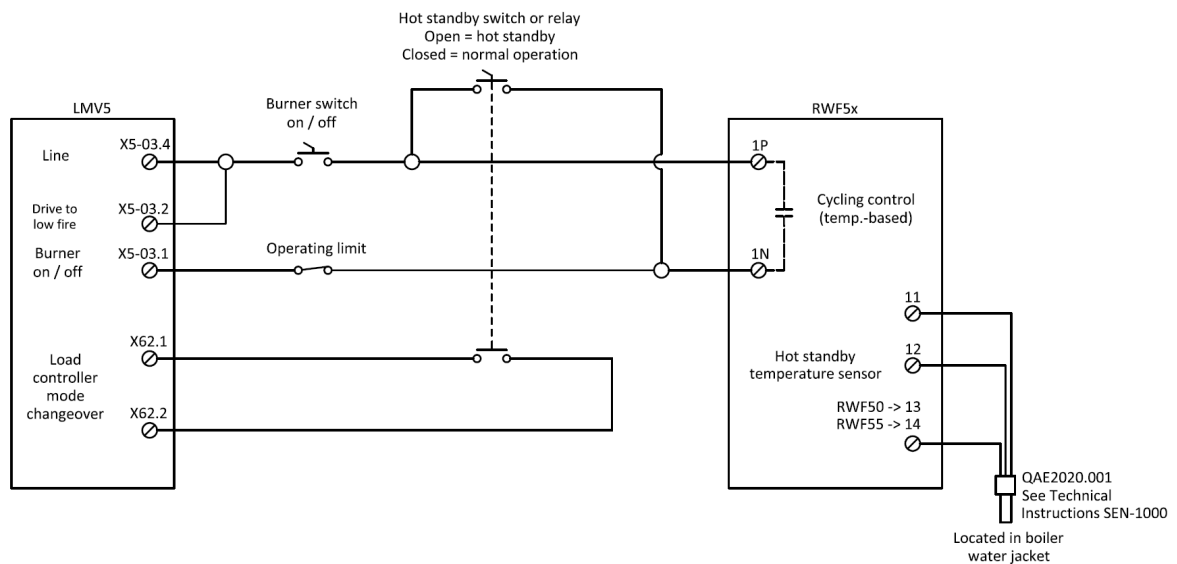

Figure 3: LMV5 to RWF5x Hot Standby Only Wiring
1. Wire the RWF55 to the LMV5 as shown in Figure 3.